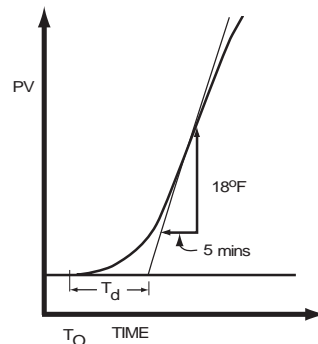

Figure 8. System Time Delay
3. Draw a line from the point of maximum slope back to the ambient temperature axis to obtain the lumped system time delay T_d (see Figure 8). The time delay may also be obtained by the equation:
Example: The chart recording in Figure 8 was obtained by applying full power to an oven. The chart scales are $10^\circ\text{F}/\text{cm}$, and $5 \text{ min}/\text{cm}$. The controller range is 100 to 600°F , or a span of 500°F .